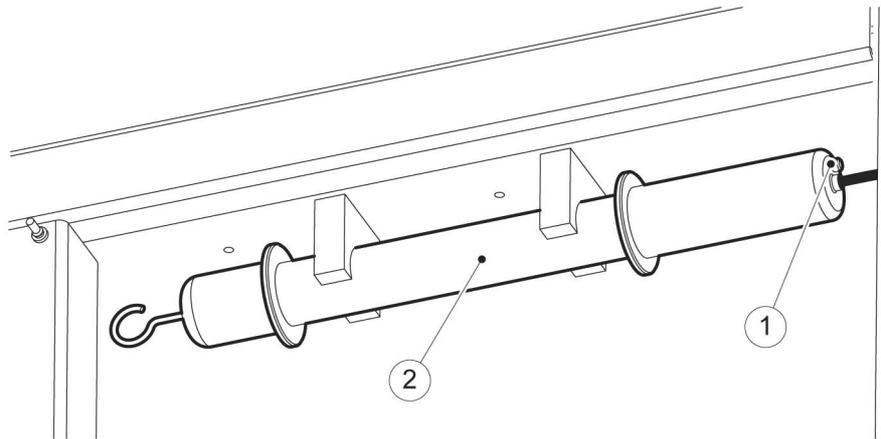

Figure 2: The light switch
7. Set the light switch (fig. 2/1) of the inspection lamp (2) in the on position.
1. Set the light switch (fig. 2/1) of the inspection lamp (2) in the off position.